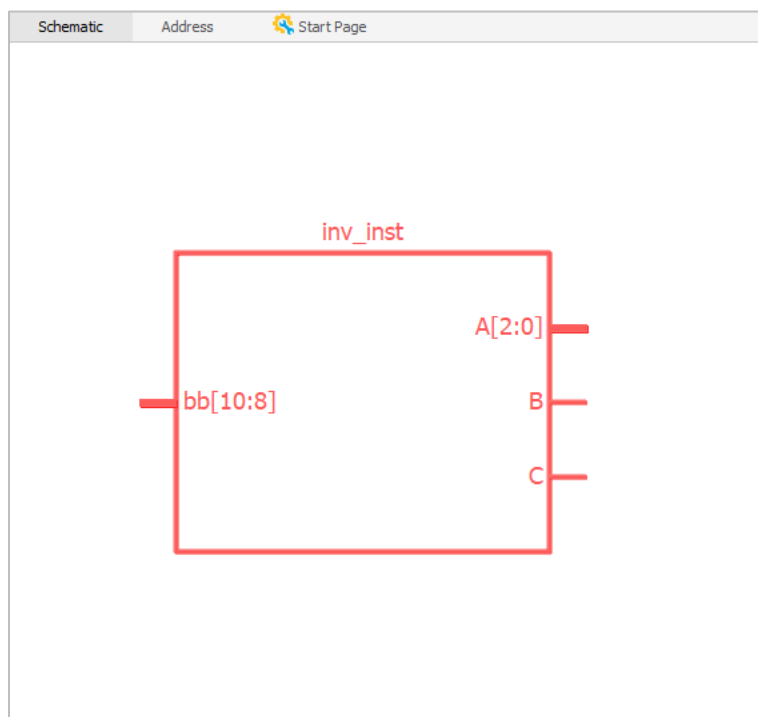

Figure 2.58. Schematic View Shows the Custom RTL Module
- Click **OK**. The schematic block for the RTL module in red appears in the Schematic view (Figure 2.58).